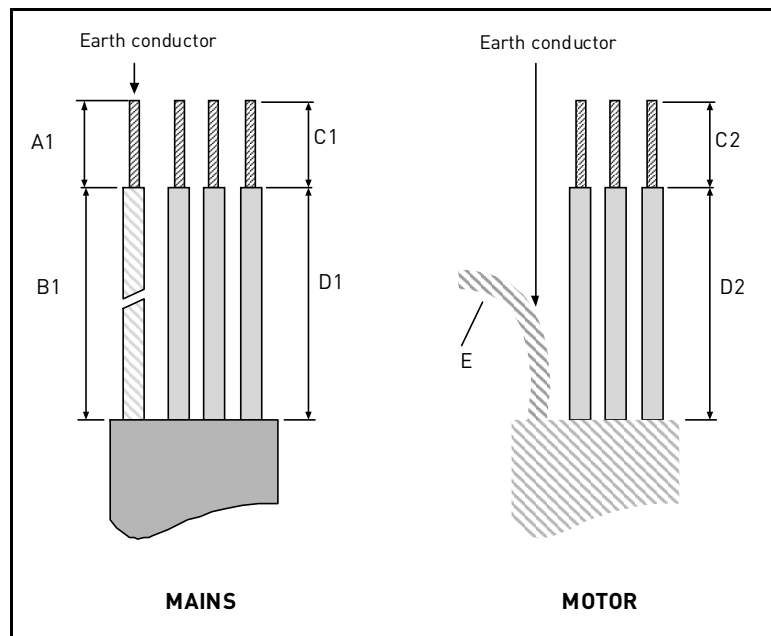
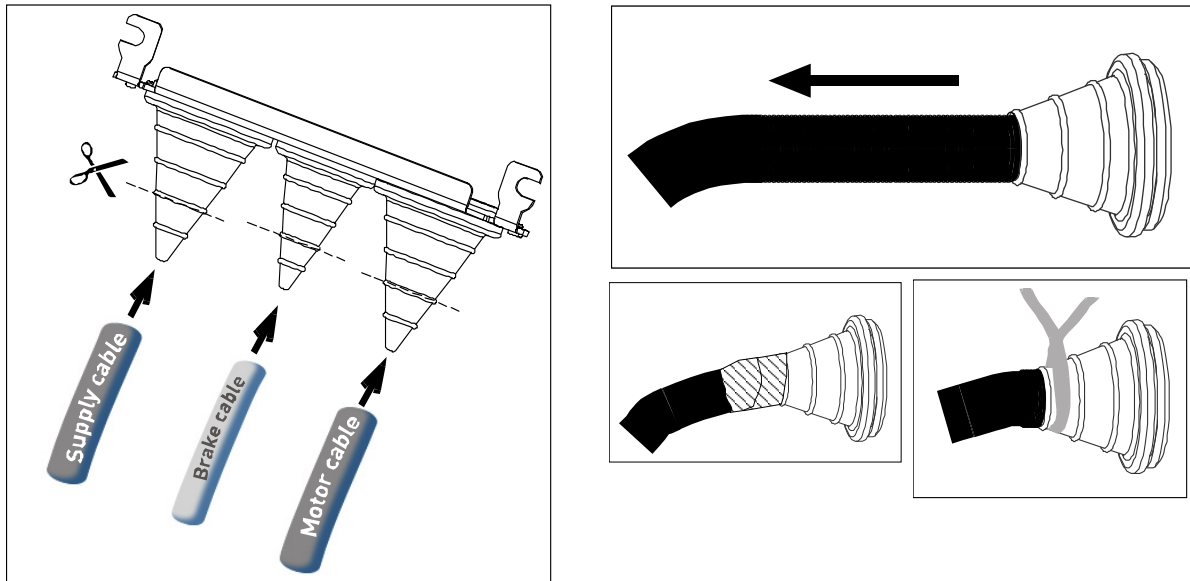
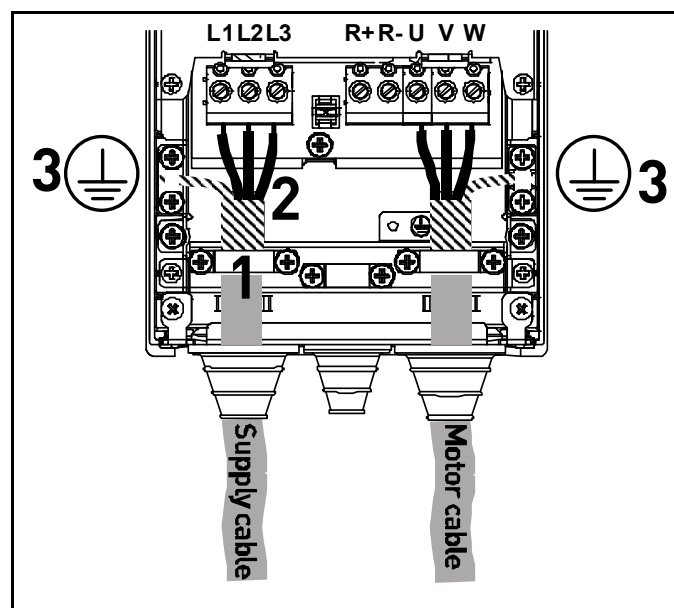

Figure 14. Stripping of cables
Figure 18.
Figure 21.
Connect the stripped cables (see Figure 14 and Figure 18) as shown in Figure 21.
- Expose the shield of all three cables in order to make a 360-degree connection with the cable clamp (1).
- Connect the (phase) conductors of the supply, brake and motor cables into their respective terminals (2).
- Form the rest of the cable shield of all three cables into “pigtails” and make a grounding connection with a clamp as shown in Figure 21 (3). Make the pigtails just long enough to reach and be fixed to the terminal - not longer.
To meet the requirements of the enclosure class IP54, the connection between the grommet and the cable must be tight. Therefore, lead the first bit of the cable out of the grommet straight before letting it bend. If this is not possible, the tightness of the connection must be ensured with insulation tape or a cable tie. As an example, see Figure 18.